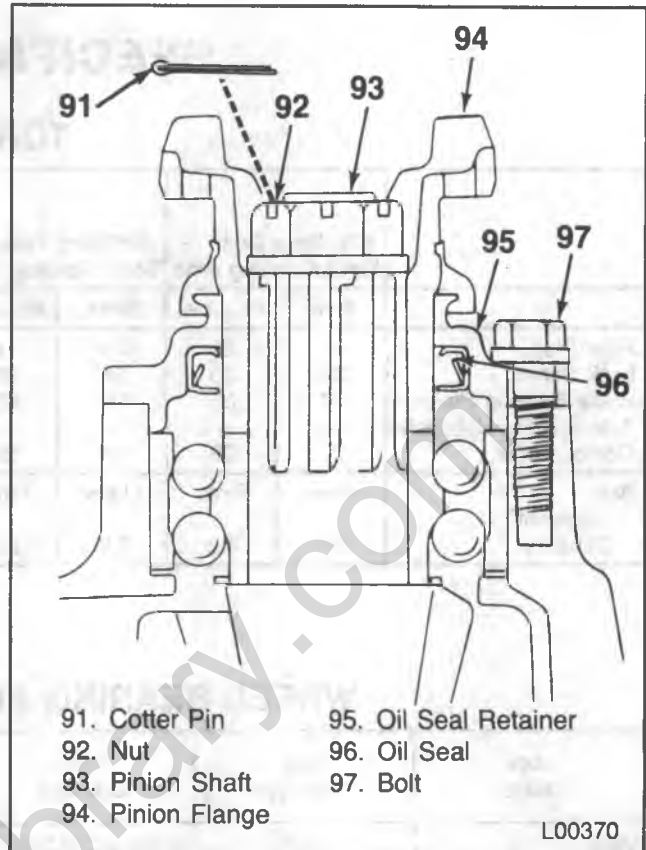

Figure 37 — Pinion Oil Seal Components
**Remove or Disconnect (Figure 37)**
6. Oil seal (96).
- Pry the oil seal (96) from the bore being careful not to damage the machined surfaces.
**Install or Connect (Figure 37)**
- Lubricate the inside diameter of the new oil seal (96) lips with extreme pressure lubricant such as 9985038 or equivalent.
1. Oil seal (96) into the bore using a suitable tool.
- Be sure the seal (96) bottoms against the bore shoulder.
2. Oil seal retainer (95).
3. Bolts to the retainer (97).
4. Pinion flange (94) using the scribed reference mark.